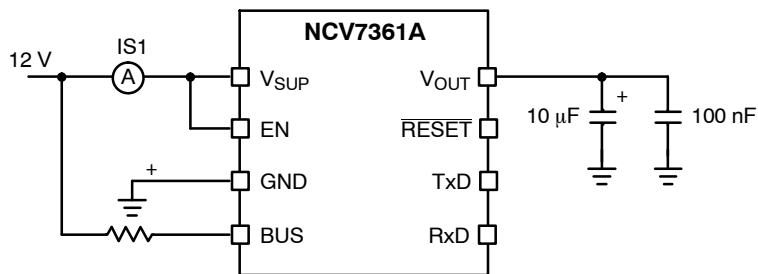

Figure 6. Test Circuit for Supply Current  $I_{SnI}$
4. See Figure 6 for test setup.